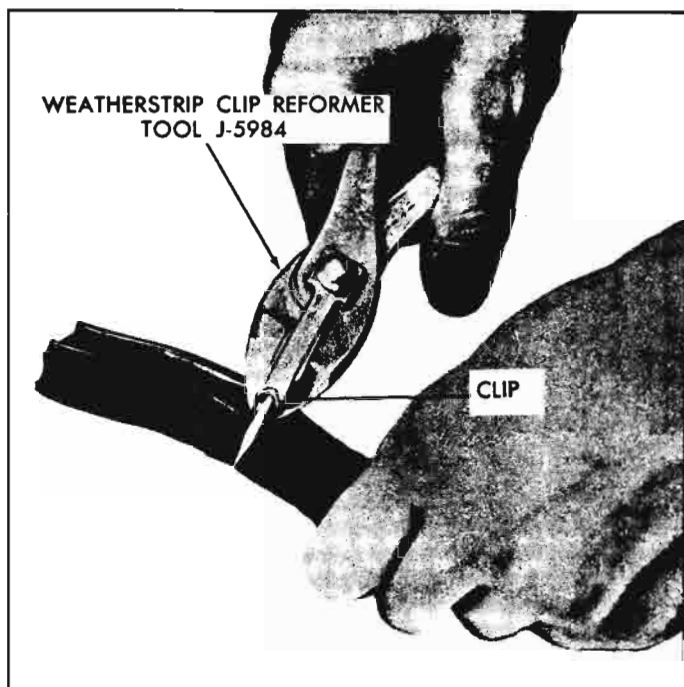

Fig. 10-46—Reforming Weatherstrip Clips with Tool J-5984
2. Check weatherstrip clips for proper contour and reform if necessary using Tool J-5984 (fig. 10-46).